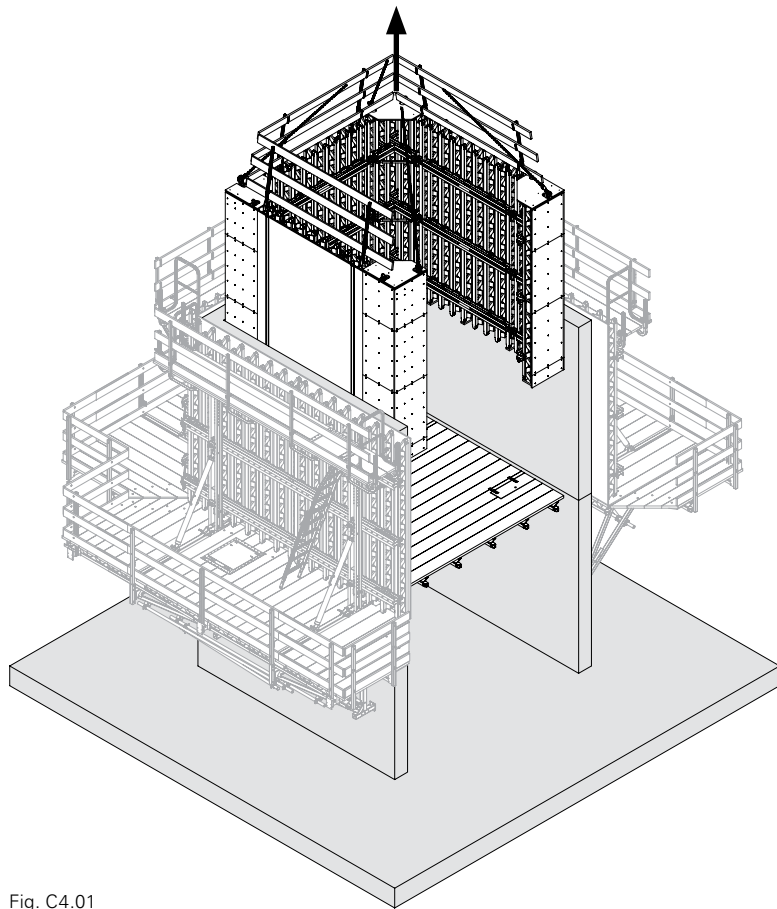

Fig. C4.01
2. Remove the internal formwork. (Fig. C4.01)